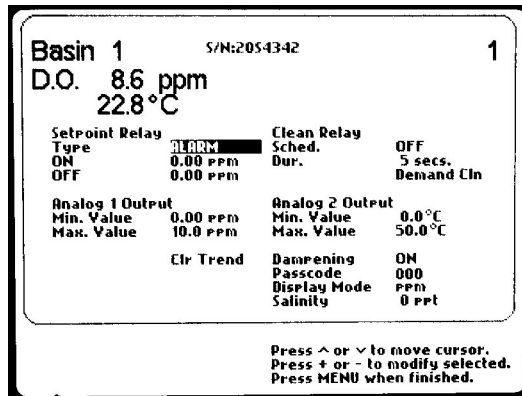

Figure 22 - Channel Setup (D.O.)
3. On the CHANNEL SETUP screen (Figure 22), use the up or down arrow keys to change the highlighted field to DISPLAY MODE (located near the lower right corner of this CHANNEL SETUP screen).
3. On the CHANNEL SETUP screen (Figure 22), use the up or down arrow keys to change the highlighted field to DAMPENING, located near the lower right corner of this screen.
3. On the CHANNEL SETUP screen (Figure 22), use the up or down arrows to change the highlighted field to SALINITY, located near the lower right corner of this screen.